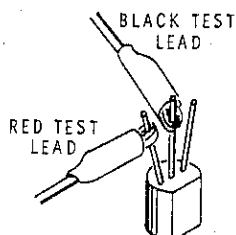

Figure 5-2
- B. Refer to Figure 5-2 and connect the leads of the transistor as directed in the "Transistor Checkout Chart" on Page 166 for the type of transistor you want to check.